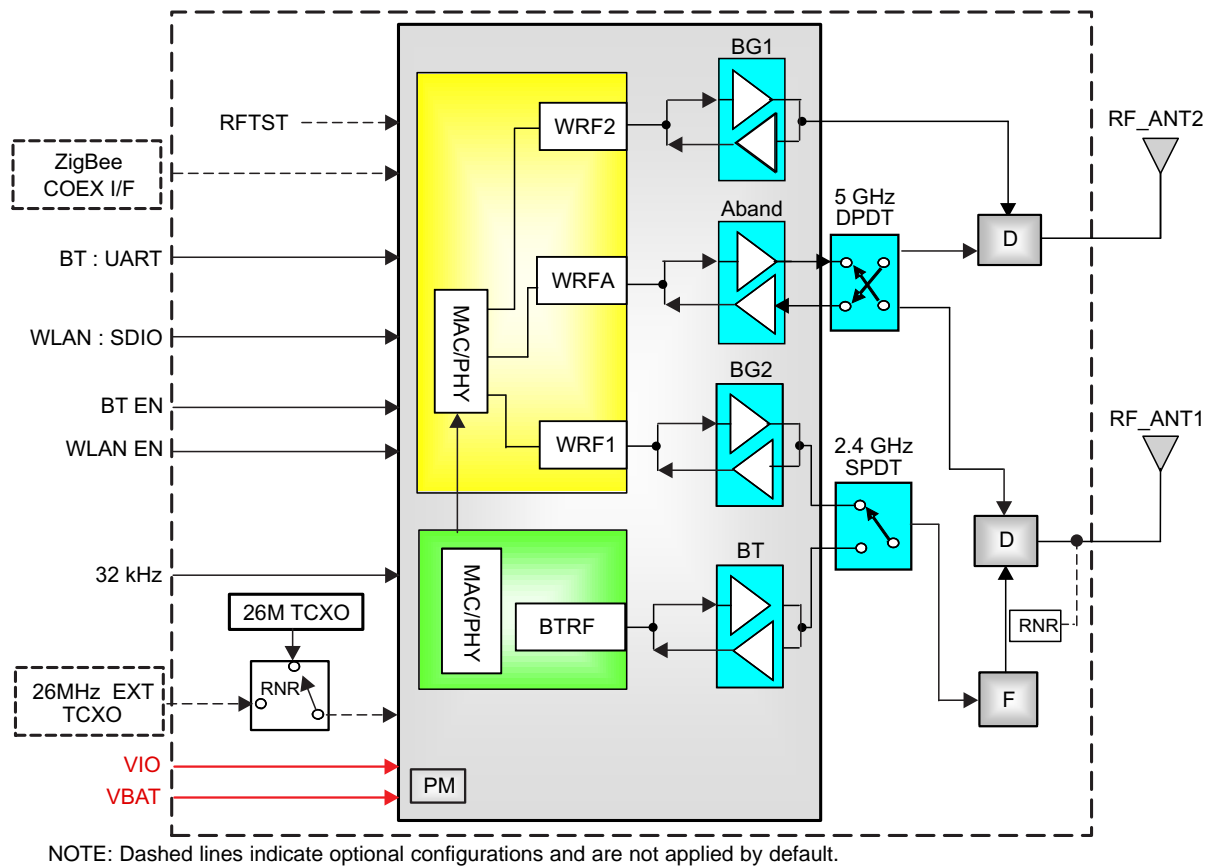

Figure 1-1. WL1837MOD Functional Block Diagram
Figure 1-1 shows a functional block diagram of the WL1837MOD variant.
• Changed functional block diagram (Figure 1-1) .....	<a href="#">2</a>